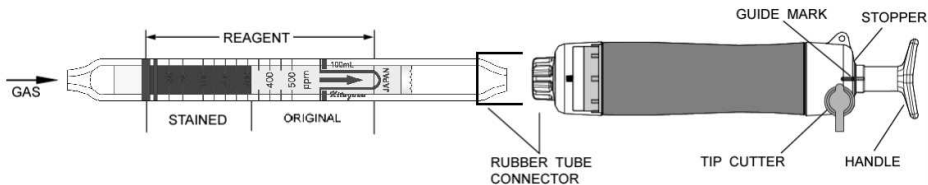

Fig.1
- ② Insert the detector tube into the aspirating pump securely as shown in Fig.1. (Arrow mark shall point to the pump.)
- ③ Align the guide marks on the handle and stopper of the aspirating pump.
- ④ Pull the pump handle at a full stroke until it locks and wait for 1 minute or until the completion of sampling is confirmed with the flow indicator of the pump. (See descriptions about the flow indicator in the instruction manual of the pump.)
- ⑤ On completion of sampling, read the scale at the maximum point of the stained layer.
- ① Temperature; Correct the tube reading by following temperature correction table.